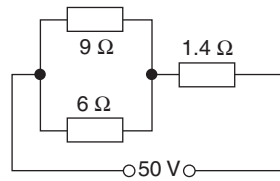

Fig. 18
- For the circuit of Figure 18, find